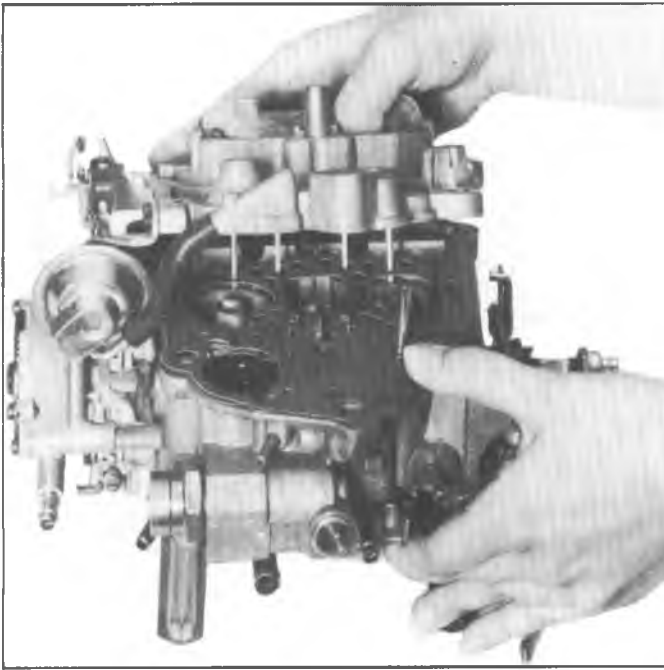

Fig. 6MQ—Removing Air Horn
6. Remove air horn from float bowl by lifting straight up. The air horn gasket should remain on the float bowl for removal later (Fig. 6MQ).